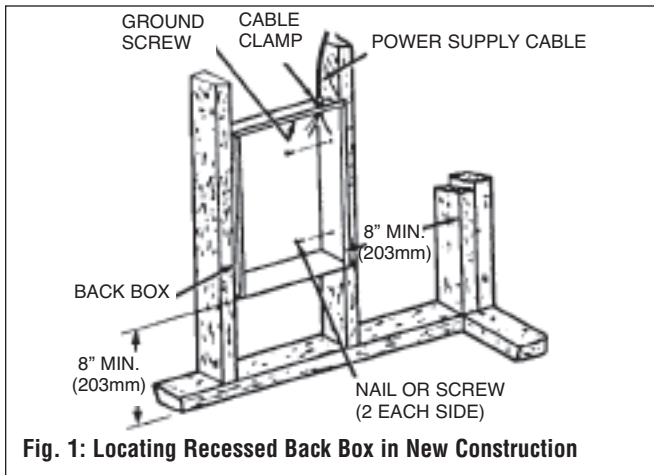

Fig. 1: Locating Recessed Back Box in New Construction
1. Mounting Back Box (See Figure 1).
- c. Secure the back box in position with wood screws or nails as shown in Figure 1.
2. Power Supply Wiring (See Figure 1).
- a. Run a power supply cable into the knockout area in the upper right hand corner of the back box. Refer to Figure 1.